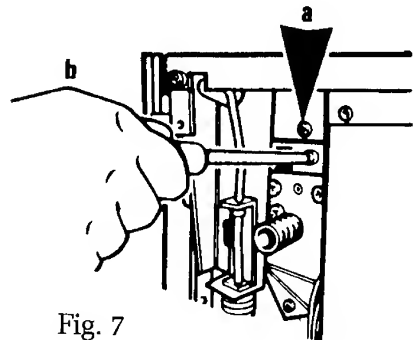

Fig. 7
4. Pull appliance forward and remove the two screws from the rear of the appliance, securing the hotplate rear trim to the flue vent. (Arrowed 'a' in Fig. 7).
5. Remove the two screws securing the rear of the hotplate as shown in Fig. 7 (indicated 'b').